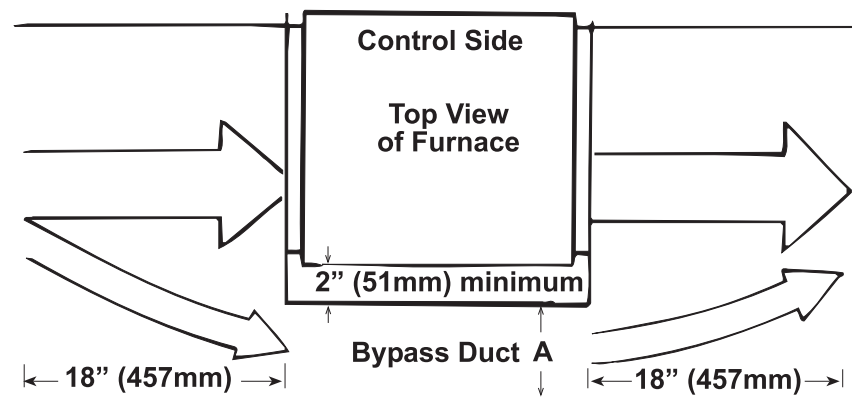

Figure 24. Bypass Duct Dimensions
When the air throughput CFM is greater than desirable or permissible for the unit, a bypass duct (see Figure 24) may be constructed. Locate the bypass duct on the side of the furnace opposite the controls and 2 inches from the heat exchanger side panel. Extend the bypass duct 18 inches (457 mm) beyond the furnace on both the inlet and outlet ends. Determine the correct size of the bypass duct as follows:
*See Figure 24.